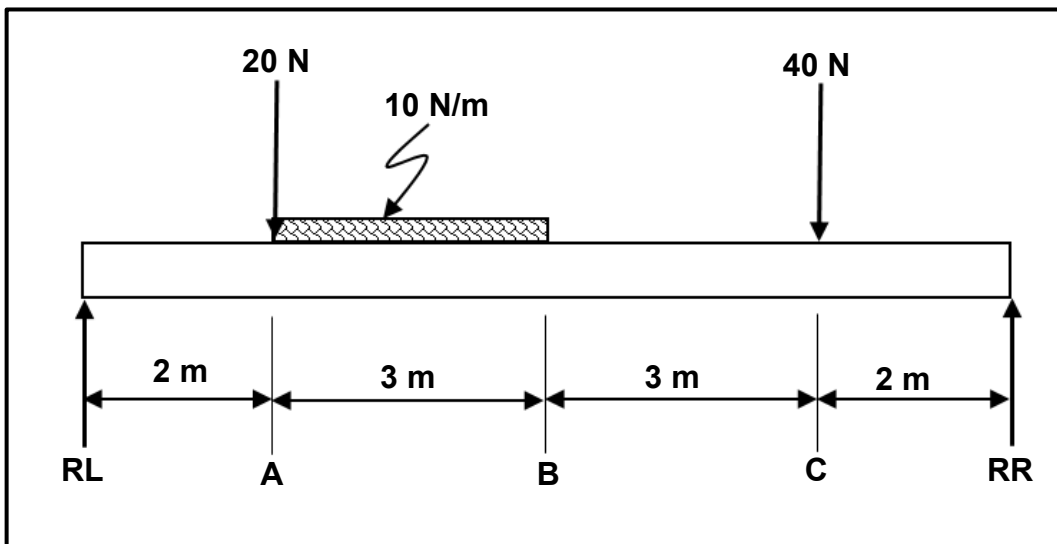

FIGURE 7.2
7.2 FIGURE 7.2 below shows a uniform beam that is supported by two vertical supports, **RL** and **RR**. The beam is subjected to TWO point loads and a uniformly distributed load (UDL).